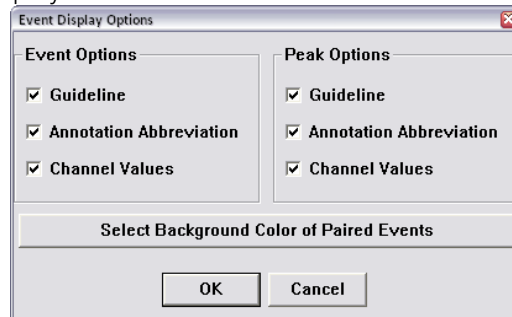

Figure 149: Event Display Options window
- The **Event Display Options** window will load (Figure 149). Select preferred options and click **OK**.
This feature only applies to events configured with auto start and stop. The background of events' graphic range in the test selected can be highlighted using the **Select Background Color of Paired Events** button available on the **Event Display Options Menu** (Figure 149).
- Click the **Select Background Color of Paired Events** button (Figure 149) to open the **Event Properties** window.